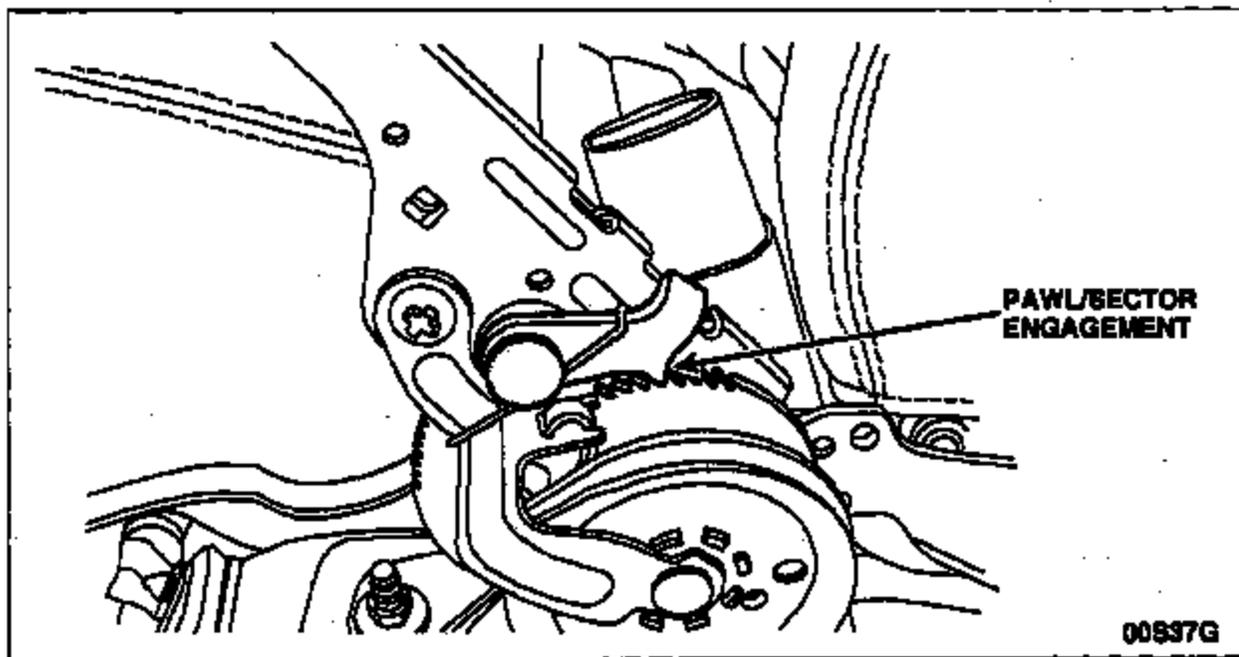

FIGURE 7
Apply and release the parking brake control four (4) times, ending with the lever pulled up to its maximum apply position. Make sure the self-adjust pawl tooth fully engages the sector gear (the pawl tooth must not be "perched" between two teeth of the gear). See Figure 7.